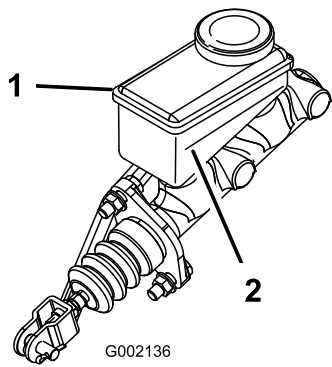

Figure 36
3. Look at the side of the reservoir. The level should be above the Minimum line (Figure 36). If the fluid level is low, clean the area around the cap, remove the cap, and fill the reservoir to above the Minimum line. Do not overfill.